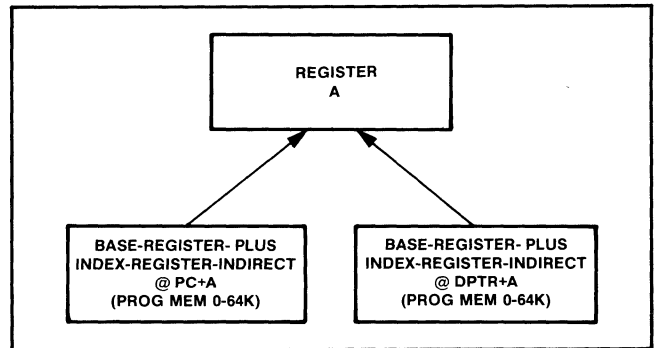

Figure 2.17 Program Memory Move Operations
Look-up-tables resident in Program Memory can be accessed by indirect moves. A byte constant can be transferred to the A register (i.e. accumulator) from the Program Memory location whose address is the sum of a base register (the PC or DPTR) and the index register (A). This provides a convenient means for programming translation algorithms such as ASCII to seven segment conversions. The Program Memory move operations are shown diagrammatically in Figure 2.17.